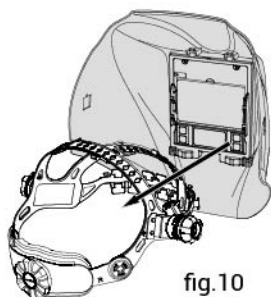

fig.10
- Completely remove original headgear (See fig.10).